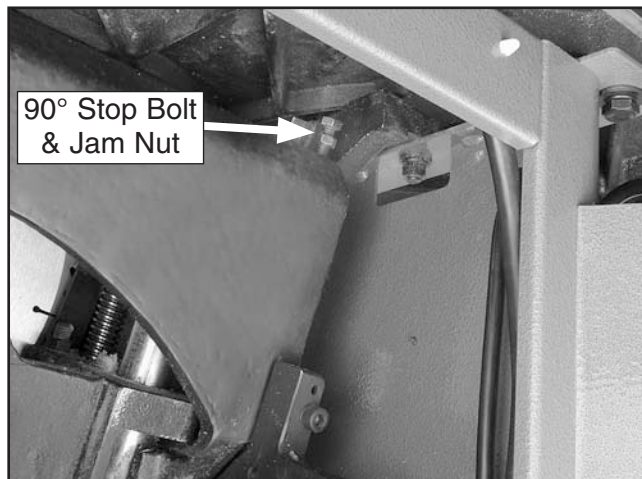

Figure 71. 90° stop bolt and jam nut.
5. Open the motor access cover, loosen the jam nut shown in **Figures 71 & 72**, adjust the stop bolt up or down, and repeat **Steps 2-3** until the stop bolt contacts the table when the blade is at 0°.